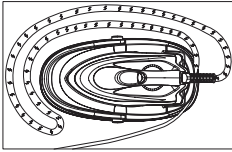
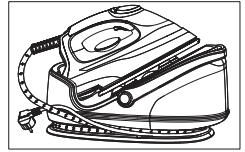

Fig.11
Fig.14
3. Place iron on base unit, fold supply hose and wind it clockwise around the cord slots of the base unit. Tie power cord and folded supply hose together, then wind power cord clockwise around the cord slots of the base unit, and lock the plug with supply hose. (Fig.11 - Fig.14)